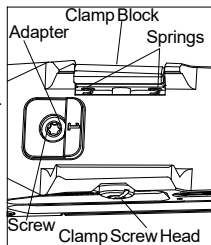

Fig 4
4) While pushing forward on the P.ID PLUS/DUAL (toward the firearm muzzle), turn the clamp screw clockwise completely until the P.ID PLUS/DUAL is secured onto the rail and cannot be moved forward or back. See Fig 4.